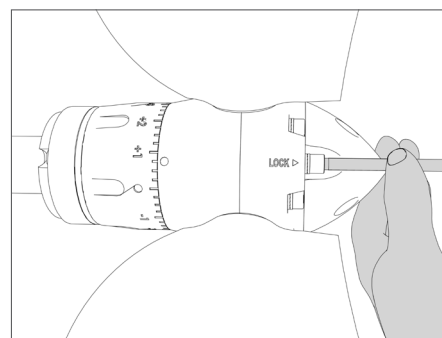

FIG. 27 Tighten the set screw
- Tighten the set screw **F** (**Fig. 27**) making sure that the screw fits properly and easily into its housing (If you find it difficult to tighten the screw, use the ring nut and tighten the screw slowly until it fits correctly into its slot). The locking screw is equipped with a wedge-locking washer in two halves, be careful not to lose it, it is also recommended not to tighten the set screw too hard, max 7 Nm (0,7 Kgm).